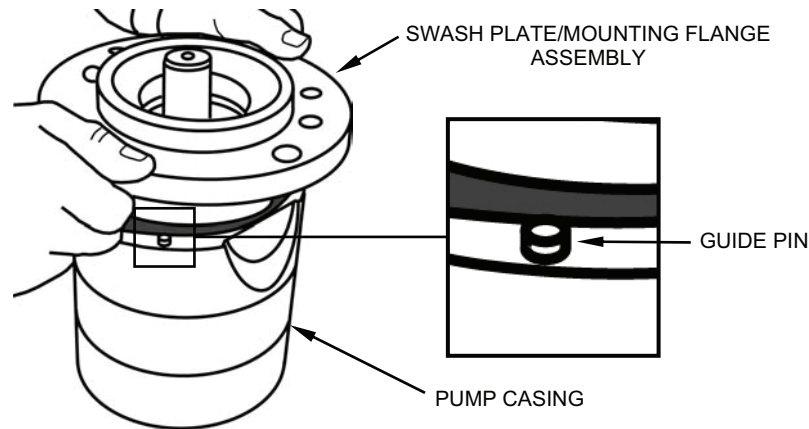

Figure 39. Installing Swash Plate/Mounting Flange Assembly into Pump Casing.
- t. Place the guide pin removed earlier in the pump casing (see Figure 39).
- u. Position the swash plate/mounting flange assembly over the guide pin and gently press the assembly into the pump casing, taking care not to pinch or twist the O-ring or damage the carbon face of the shaft seal (see Figure 39).